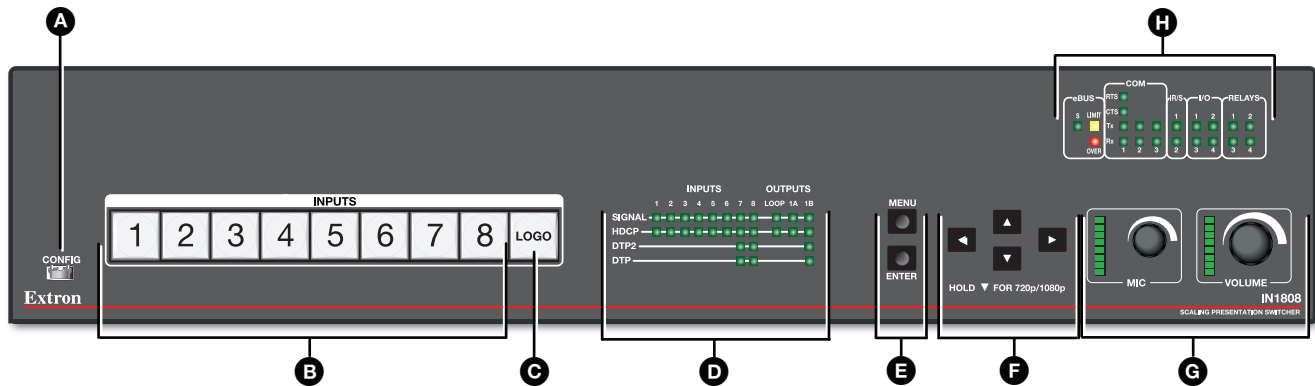

Figure 2. Front Panel Features, IN1808 IPCP SA and IN1808 IPCP MA 70
- For control through USB, connect a host device to the front panel USB mini-B port (see figure 2, **H** on page 4).
Figure 2 shows the front panel of the IN1808 IPCP SA and IPCP MA 70. The IN1808 base model is 1U high and has no IPCP Pro LEDs (H).